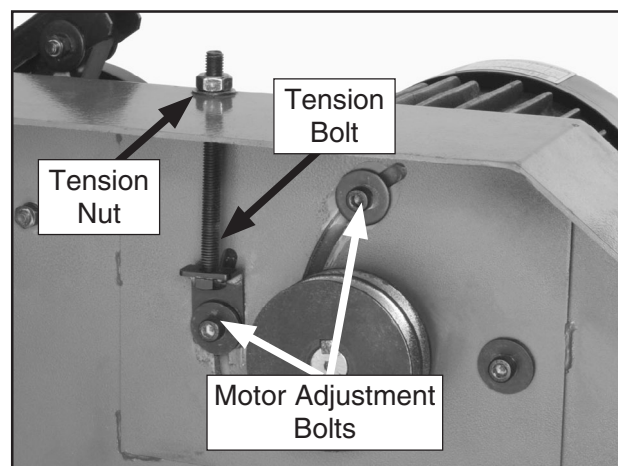

Figure 76. Motor mount bolts and tension bolt.
3. Loosen the motor adjustment bolts shown in **Figure 76**.
3. Loosen the motor mount bolts shown in **Figure 76**, then turn the tension bolt counter-clockwise, and pull the V-belts off.